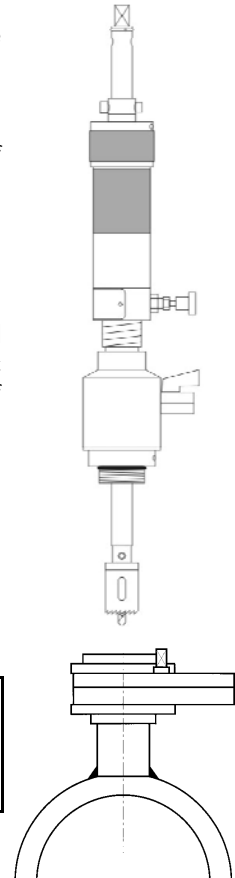

Figure 35
- Install the 2½" sandwich valve with the adapter corresponding the fitting thread size (1½" or 2"). See *Figure 35*. The sandwich valve gate shall be in OPEN position.